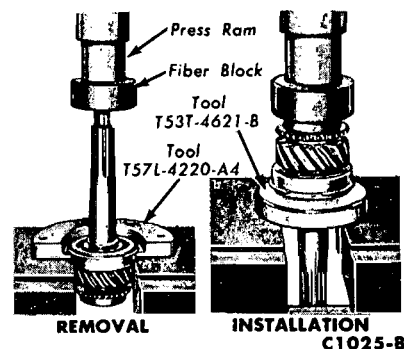

FIG. 17—Replacing Input Shaft Bearing
2. Press the input shaft bearing onto the input shaft with the tool shown in Fig. 17 and install the snap ring on the shaft.